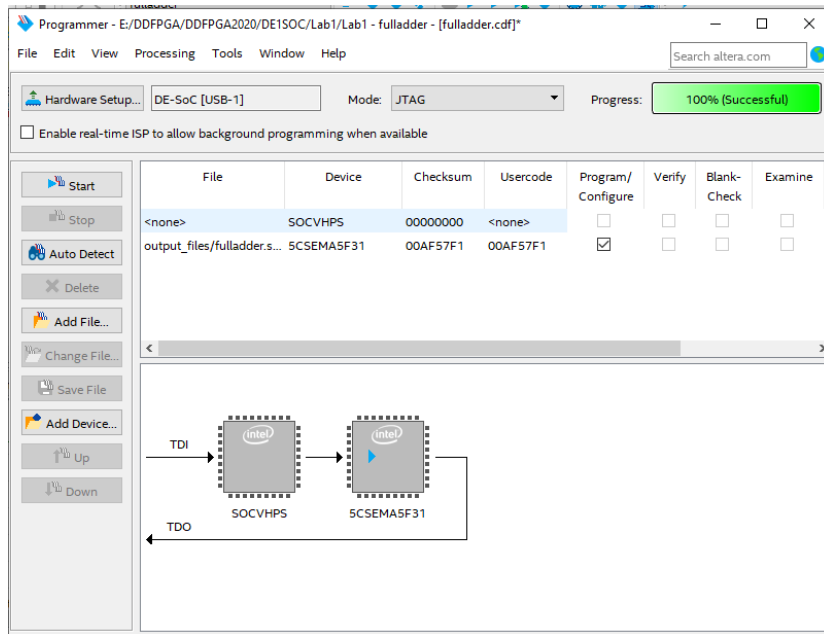

Fig. 1.12 Programmer window
- Select **Tools - Programmer** to reach the window in Fig.1.12
Observe that the configuration file **fulladder.sof** in directory output files is listed in the window. If the file is not already listed, then click **Add File** and select it. This is a binary file produced by the Compiler's Assembler module, which contains the data needed to configure the FPGA device. The extension **.sof** stands for SRAM Object File. Ensure the Program/Configure box is checked. This setting is used to select the FPGA in the Cyclone V SoC chip for programming. If the SOCVHPS device is not shown as in Fig. 1.12, click **Add Device - SoC Series V - SOCVHPS** then click **OK**. Ensure that your device order is consistent with Fig. 1.12 by clicking on a device and then clicking **Up** or **Down**.